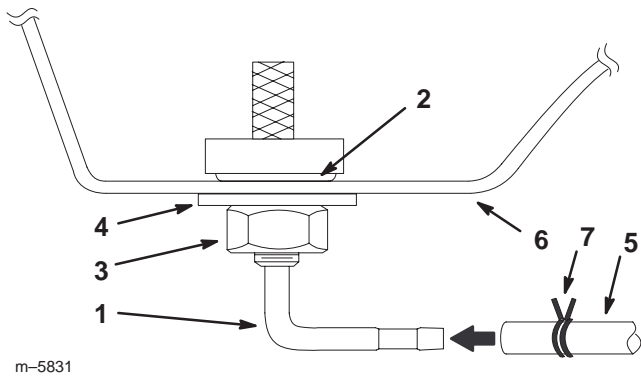

Figure 4
6. Pull the bulkhead fitting through the hole until the threads are showing (Fig. 4).
8. Install the washer and locknut onto the fitting. Position the elbow in the correct position, for the fuel line, and tighten the locknut (Fig. 4).
9. Install the fuel line onto the elbow of the fitting. Slide the hose clamp onto the elbow (Fig. 4).
10. Pour gasoline into the fuel tank, enough to cover the bulkhead, to check for leaks around the fitting area (Fig. 4).